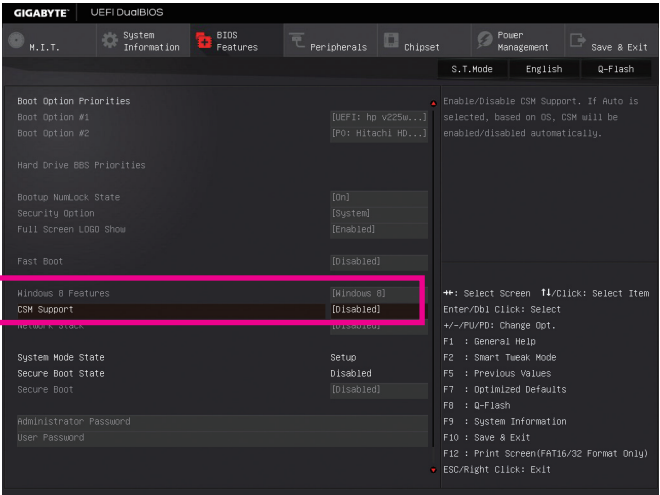

Figure 2
- In BIOS Setup, go to **BIOS Features** and set **Windows 8 Features** to **Windows 8** and **CSM Support** to **Disabled** (Figure 2). Save the changes and exit BIOS Setup.